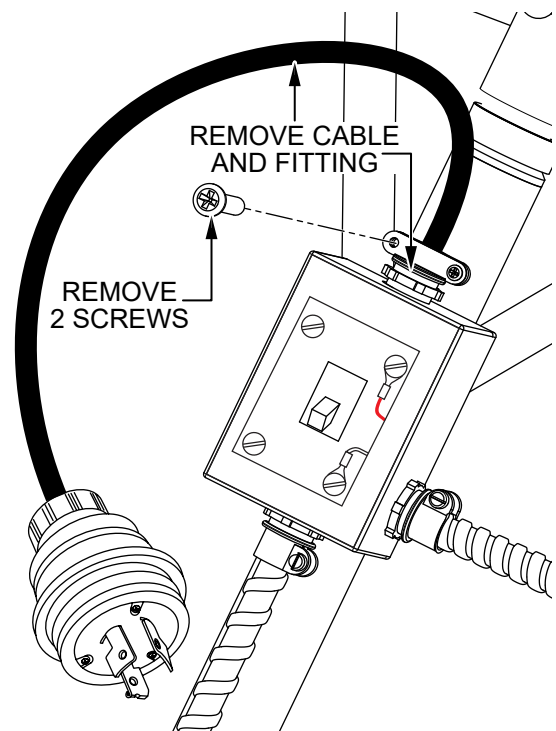

Figure 4. Remove Existing Power Cable Assembly
3. Remove the two small screws (Figure 4) securing the existing power cable fitting to the main switch box.
4. Remove and discard the existing power cable and fitting (Figure 4).